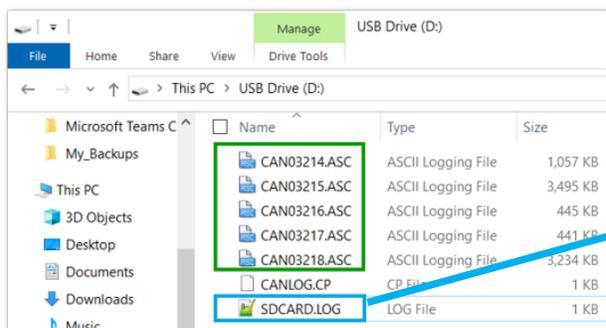

Figure 8: Flash drive root folder contents after transfer
12. **ENSURE** following (Figure 8 and 9):